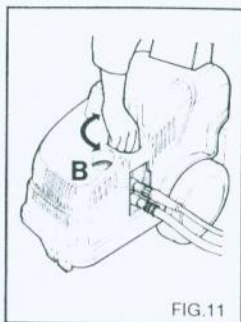

FIG.11
This chapter concerns only those models provided with the "pressure regulating" device. The pressure regulator, fig. 11, allows the operator to adjust the working pressure. When knob C is turned in an anti-clockwise direction (B), the flow pressure is reduced.